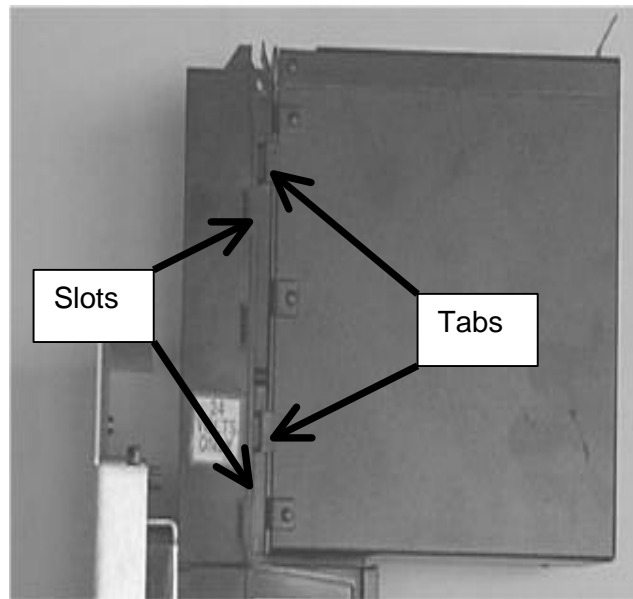

Figure 10. Bill Stacker
3. Align the tabs on the bill stacker just above the slots on the bill validator. (See Figure 10)